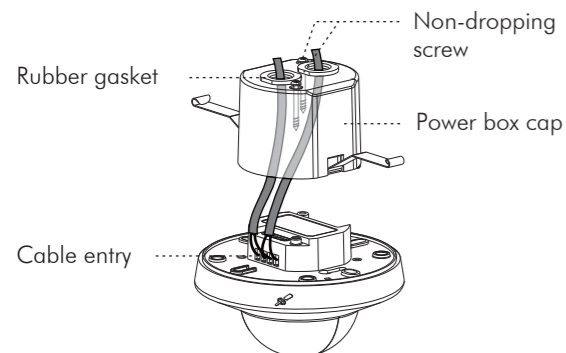

FIG.10
3.4.2.2 Use screwdriver to break the rubber gasket on box cap, then feed cables through it (See FIG.10).